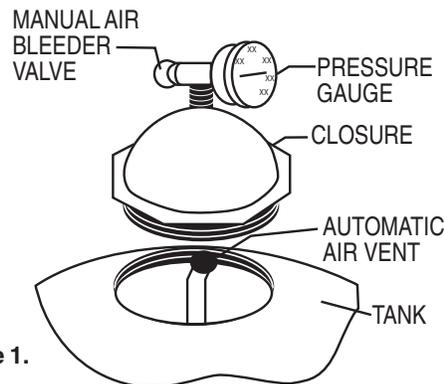

Figure 1.
- Pivot the diffuser out of the center of the tank by rotating the diffuser assembly counter clockwise. Fill the tank about half full of water. Pour pea gravel first and then the sand into the top of the filter at a slow rate so that the impact of the filter media does not damage the laterals. See Table 2 for the proper amounts of sand and gravel. Fill filter to the proper level to maintain freeboard, as shown in Table 2. Pivot the diffuser assembly back to its vertical position. Be certain the automatic air vent is protruding into the top of the closure as indicated below in Figure 1. Be sure that the automatic air vent is in the center of the filter closure and that the screen strainer is attached.. Wash away all sand around the threaded opening at the top of the tank.